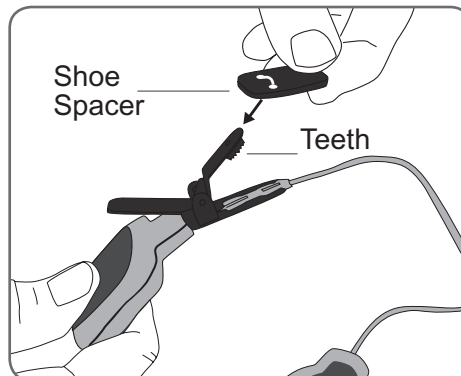

Figure 10: Covering the clamp with the shoe spacer.
4. Cover the clamp on the transmitter with the shoe spacer, if desired. See Figure 10. The teeth of the clamp may scuff the shoe, if not covered.